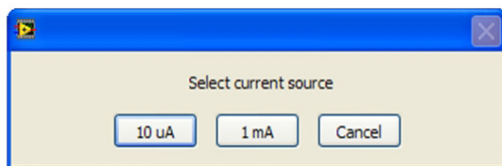

Figure 6.2
3. Click on the "Current Source" button of the Utility Software Calibration window. This opens up a warning window. Click on "Proceed" to continue. The next screen is shown in figure 6.2.
3. Click on the "Current Source" button of the GUI Calibration window. This opens up a warning window. Click "Proceed" to continue. The next screen is shown in Figure 6.2.